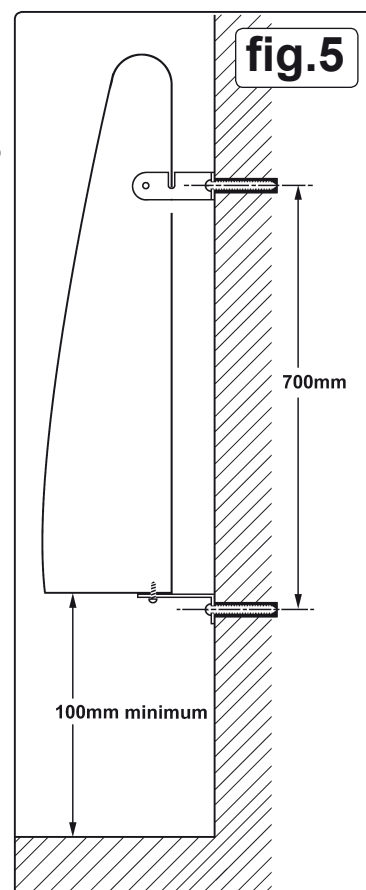
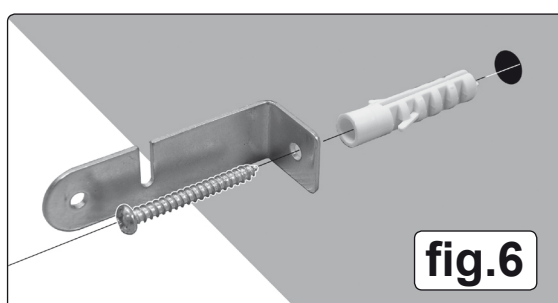

fig.5
fig.6
- 3.3. **Wall mounting the heater.** The wall mounting kit consists of four wall mounting brackets as shown in fig.6. (two left hand and two right hand) and four 35mm fixing screws with wallplugs. Locate the heater close to a mains supply socket.
- 3.4. Take the other pair of brackets and fix them to the wall with the wall plugs provided as shown in fig.6. The hanging slots should be facing upwards and the two brackets should be facing towards each other 486mm apart as shown in fig.4. The fixings should be at least 800mm above the floor to give a minimum clearance of 100mm between the bottom of the heater and the floor as shown in fig.5. When the heater is wall mounted the feet are not required.